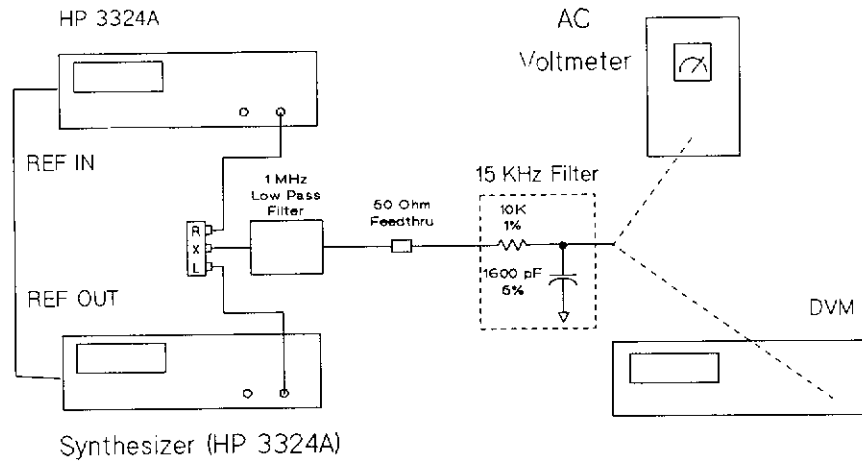

Figure C-3. Integrated Phase Noise Test Set-Up
1. Connect the equipment as shown in Figure C-3, connecting the 15 kHz noise equivalent filter output to the AC voltmeter. Phase lock the HP 3324A and the signal generator together.